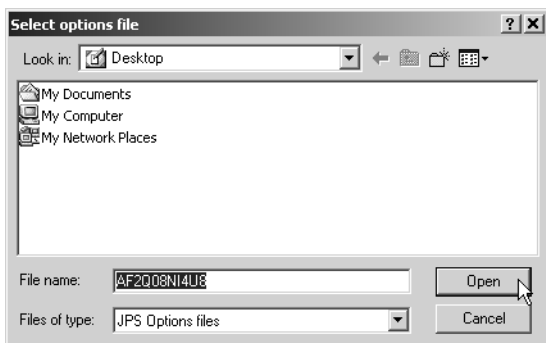

Figure 4-13. Load OAF
3. Navigate to the location of the new Option Authorized File. OAFs have .jpo or .tpo extensions and are unique to each receiver (Figure 4-13).
4. Select the appropriate file and click **Open** (Figure 4-13). The new receiver option loads onto the receiver and the Option Manager table updates.